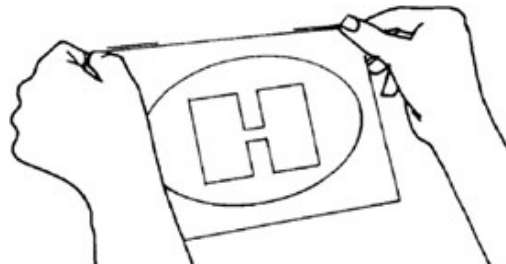

Figure 16. Tacking the Corners
4. Tack the EAGF in place with thumb pressure in the upper corners. See Figure 16.